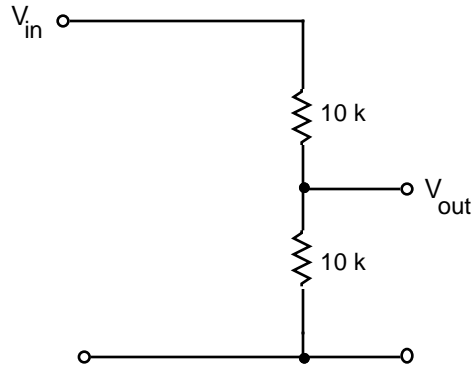

Fig 1.2
a) Construct the voltage divider of Fig. 1.2. Use the 12 V dc power supply of the breadboard for V_{in} . Measure the open-circuit output voltage. Now connect a 10 k Ω resistor on the